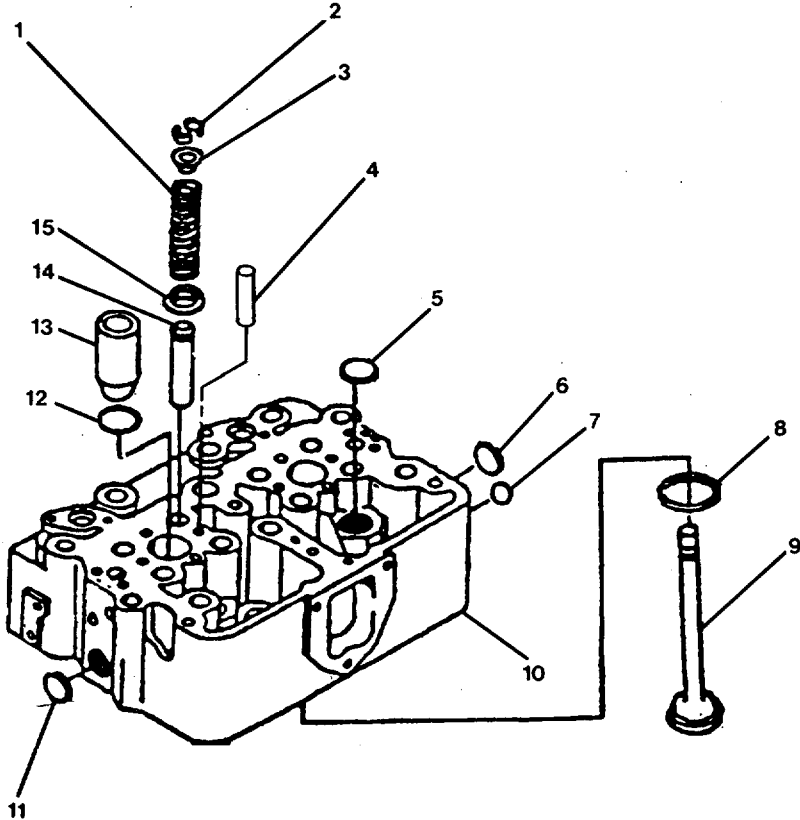
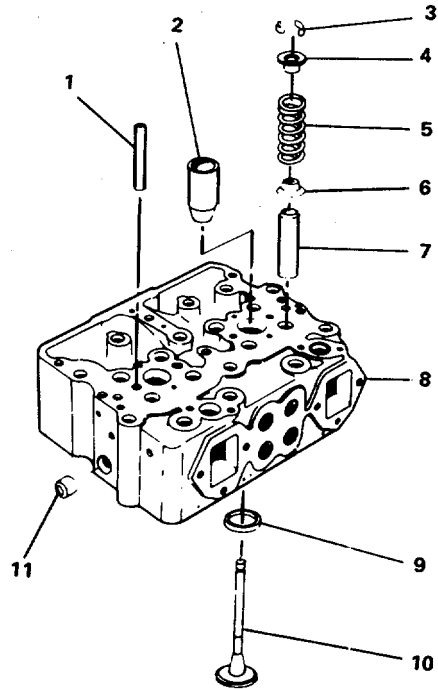

FIGURE 4-1. Cylinder Head Assembly - Exploded View.
FIGURE 4-3. *Cylinder Head (Table 4-3 Reference).*
DISASSEMBLY (Refer to FIGURE 4-1)
- (1) Make sure the valve spring compressor stand is fastened to the work bench.
- (2) Align the center of the cylinder head with the plunger (4) of the compressor stand.
- (3) Position the compressor plate (3) on the cylinder head (2) so that the valve stems will be in the center of the holes in the plate (3).
- (4) Pull down on the handle (1) of the stand. Make sure the valve stems stay in the center of the holes.
- (5) Bring the handle (1) all the way down so that the locking pin will engage the hole in the plunger (4). The locking pin holds the plunger (4) against the plate (3) that compresses the springs.
- (6) Remove the valve spring collectors (2, FIGURE 4-1).
- (8) Remove the valve springs (1, FIGURE 4-1), valve springs guides (3, 15), and valves (9) from the cylinder head.
- (9) Mark each valve as it is removed to identify its location in the cylinder head.
- d. There is a 1/8 inch pipe plug in the cylinder head vent hole. Remove the pipe plug (15).
- g. Remove the expansion plugs (7, 5, and 6, FIGURE 4-1).
- (1) Use a hammer and punch to loosen the cup plug. Hold the punch against the plug, near the outside diameter of the plug, and hit the punch with a hammer to cause one side of the plug to move from its correct location.
- (2) Use pliers to pull the plug from the hole.
**REPAIR.** Table 4-3 lists specifications for the cylinder head, valve guides, valve seat inserts, crosshead guides, and injector sleeves. See FIGURE 4-3 for reference numbers in Table 4-3 which is located at the end of this procedure.
- (1) Blow out all capscrew holes, fuel passages, and oil passages.